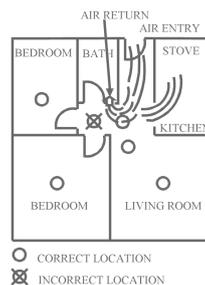

Figure 7: Recommended smoke detector locations to avoid air streams with combustion particles
- When air streams passing by kitchens, the way how a detector can sense combustion particles in normal air-flow paths is graphically shown in Figure 7, which indicates the correct and incorrect smoke detector locations concerning this problem.